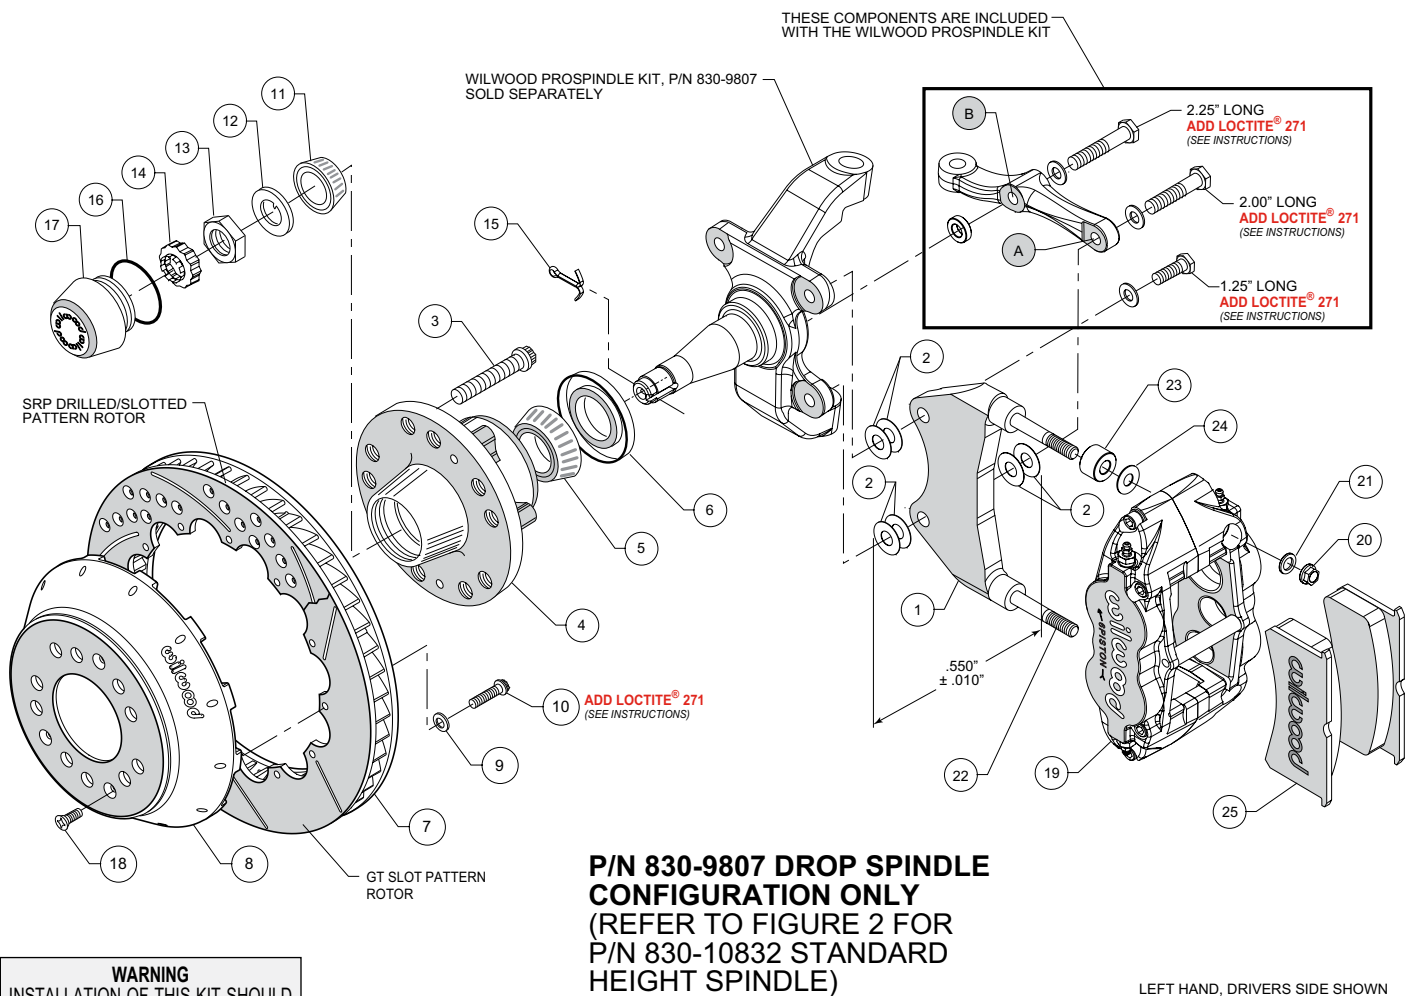
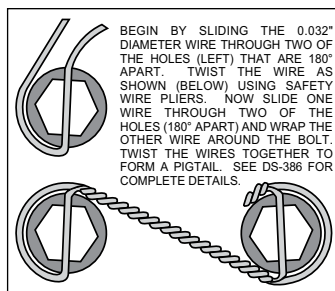

Figure 1. Installation Configuration For Drop Spindle, P/N 830-9807
Figure 4. Safety Wire Diagram
NOTE: Numbers in parenthesis refer to the parts list and Figure 1 on the preceding pages.
•**NOTE:** Each Wilwood ProSpindle kit includes bolts, washers, and a spacer to mount the steering arm and caliper bracket. The various bolts are identified by length in the following instructions and in Figures 1 and 2.
- Orient the bracket as shown in Figure 1 and Photo 1. Install at top spindle hole using 1.25" long bolt and .06" thick washer (from ProSpindle kit), and two .016" thick shims (2) between the bracket and spindle, Figure 1.
- Orient the steering arm, and identify the hole marked 'A', as shown in Figure 1. Install at bottom spindle hole using 2.00" long bolt and .06" thick washer (from ProSpindle kit), two .016" thick shims (2) between the bracket and steering arm, and another two .016" thick shims (2) between the bracket and spindle, Figure 1. The bracket is located between the steering arm and spindle. **NOTE:** The bracket and shim washers must add up to a total thickness of .550" $\pm$.010", Figure 1.
- Finish attaching the steering arm through the hole marked 'B', as shown in Figure 1. Install using 2.25" long bolt, .06" thick washer, and .25" thick spacer (all from ProSpindle kit), Figure 1.
- Orient the rotor (7) and the hat (8) as shown in Figures 1 or 2, and Photo 6. Attach rotor to hat using bolts (10) and washers (9). Apply red *Loctite*® 271 to the bolt threads and torque to 155 in-lb using a criss-cross pattern. For an added measure of security, the bolts may be safety wired using standard 0.032 inch diameter stainless steel safety wire as shown in Figure 4. Refer to Wilwood's data sheet DS-386 (available at www.wilwood.com/Pdf/DataSheets/ds386.pdf) for complete safety wire installation instructions.
NOTE: This kit contains distinct right and left hand calipers that must be mounted in a specific direction, as described below. Initially place one .035" thick shim (24), and spacer (23) on each stud (22) as shown in Figure 1 or 2, and Photo 7. Mount the caliper (19) onto the bracket (1) using lock nuts (20) and washers (21), Figure 1 or 2. Ensure that the caliper is mounted so that the largest pistons are at the rotor exit end of the caliper, in relation to the direction of rotor rotation. Temporarily tighten the lock nuts and view the rotor through the top opening of the caliper. The rotor should be centered in the caliper, Photo 8. If not, proceed as follows:
- Adjust by adding or subtracting shims (2) between the bracket and the spindle. Always use the same amount of shims on each of the two bolts between bracket and spindle.
- For the lower bracket mount bolt, if a shim was added between the bracket and spindle, then a shim must be removed between the steering arm and bracket, such that the total thickness of bracket and shims remain equal to $.550 \pm .010$ ", Figure 1.